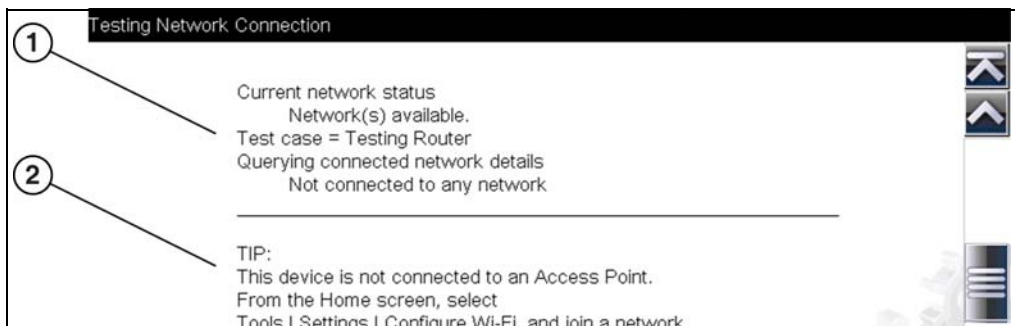

Figure 14-5 View Summary
4. If a connection issue(s) is present, select **View Summary** to review the results. The summary information is helpful if you are experiencing difficulties with your connection (Figure 14-5). Scroll through the summary information to review the test results for each system and Tip messages for the current connection issue. See *Connection Tests - Troubleshooting* chart in Wi-Fi Troubleshooting and Status Messages, on page 186 for additional information.